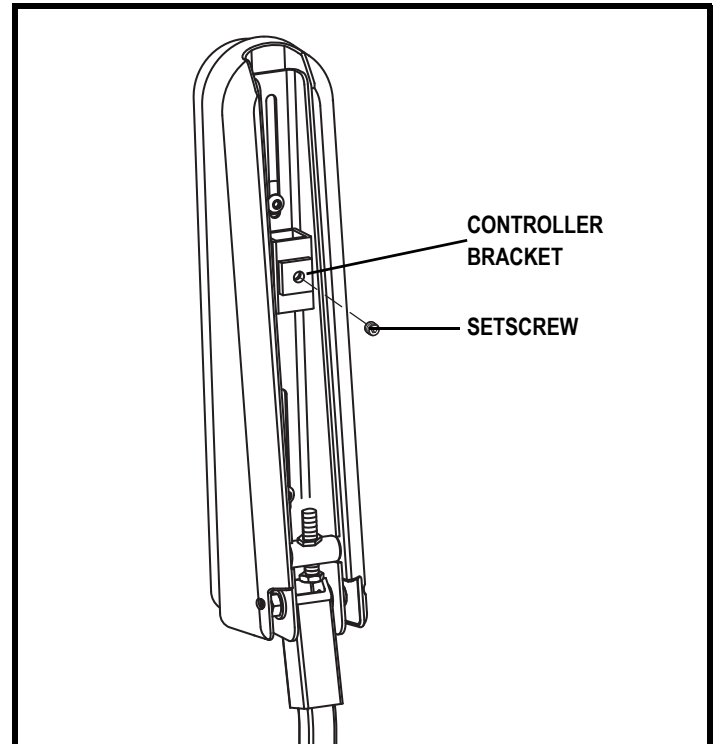

Figure 17. Underside of Armrest
2. Loosen the setscrew on the controller bracket. See figure 17.
4. Flip up the armrest and loosen the setscrew. See figure 17.